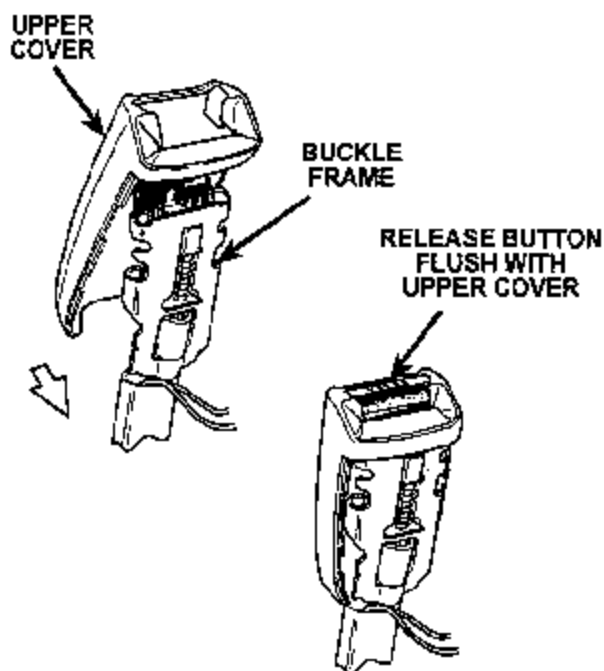

FIGURE 10
17. Install the provided upper buckle cover over the buckle mechanism (Figure 10). The cover should snap into place and the release button should be flush with the buckle cover. Verify again that the buckle operates properly by latching and unlatching the seat belt tongue several times.